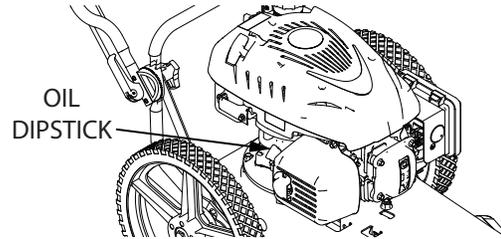

FIGURE 7: *Oil Dipstick Location.*
2. Remove dipstick and carefully tip the engine toward the dipstick side to empty oil from oil fill area. Empty oil into a suitable oil container and dispose of oil properly. **SEE FIGURE 7**